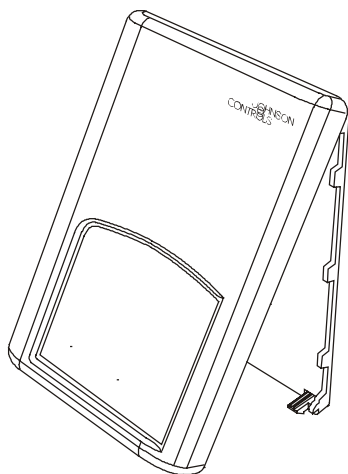

Figure 2: Removing the Sensor Cover
1. Remove the security screw on the bottom of the sensor cover using a Phillips-head screwdriver. Open the thermostat by pulling on the bottom side of the sensor cover (see Figure 2).